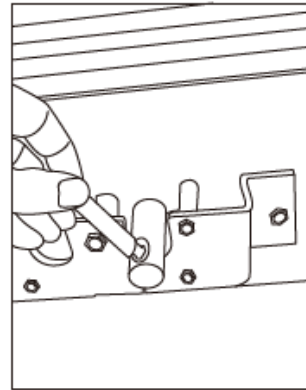

Fig 2
4. Push spring lock tabs to the side and pull Reel Lock Pins (4) on each side of cradle (Fig 2).